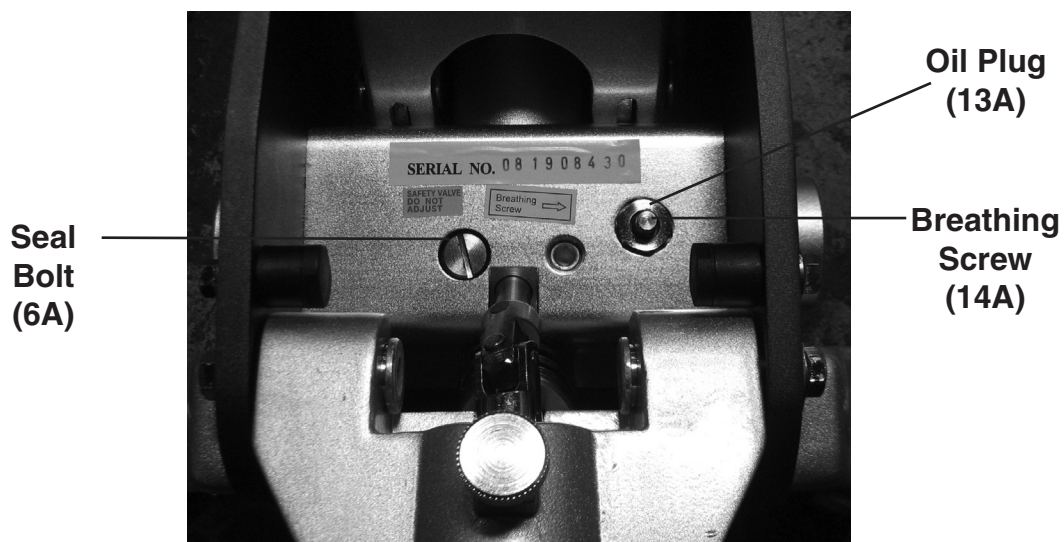

FIGURE 1
2. Turn the Breathing Screw (14A) fully counterclockwise. (See **Figure 1**, below)
3. Turn the Handle (20) to a position where the Discharge Valve is closed enough for the Saddle (41) to rise when you pump with no pressure on the Saddle, but open enough so that the Saddle does not rise when you pump with one hand while applying pressure to the Saddle with your other hand. (If the Saddle is up, turn the Handle slowly counterclockwise until the Saddle begins to go down slowly. If the Saddle is down, while pumping quickly, turn the Handle slowly clockwise until the Saddle begins to rise.)